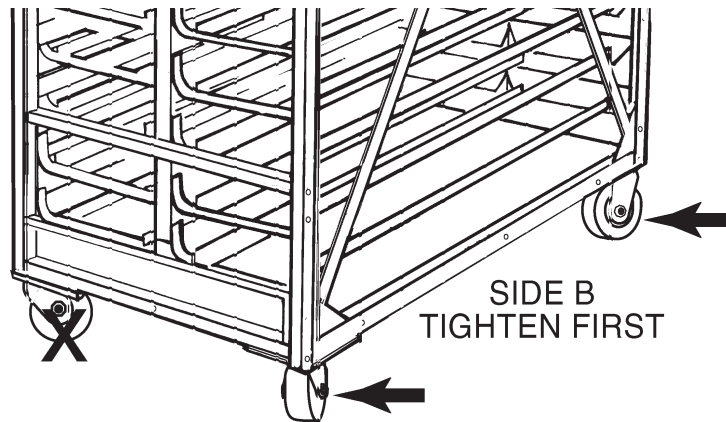

Figure 27: Tightening the Casters on the Opposing Side
Step 23: Tighten the casters on the opposing side first, as in Figure 27, then tighten the bolts of the first two casters.